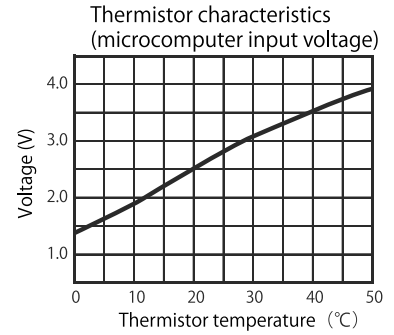
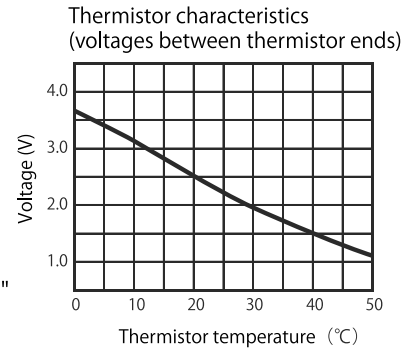

Fig. 5-2
Fig. 5-3
- The relationship between the thermistor temperature and circuit voltage is roughly as shown in Fig. 5-2. If it is easier to take actual measurements between the terminals of CN1A and CN2A, refer chart in Fig. 5-3 "Voltages between Thermistor ends."